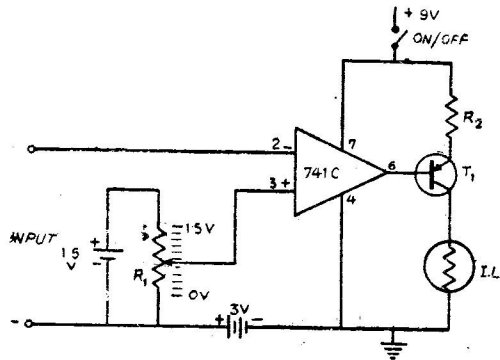

Fig. 5
The principle of the instrument should now be clear from the circuit diagram, Fig. 5. The potentiometer here divides the standard voltage of the cell according to our choice, *i.e.*, setting of the knob. This voltage is compared with the voltage to be measured. Till the standard voltage is less than the voltage to be measured, the output of the OP. AMP. is low and so the transistor  $T_1$  is in saturation, the bulb is glowing. As soon as the standard voltage exceeds the voltage to be measured the OP. AMP. output goes high, transistor comes in cut off and bulb goes off.
*Circuit Description:* The heart of the supply is a voltage regulator integrated circuit, 723. The unregulated D.C. voltage obtained by transformer TFI, rectifier bridge B1, capacitor C1 and C2 and resistance R1 in usual way, is regulated by the I. C 723, transistor T1 and associated components. (see Figure 5)